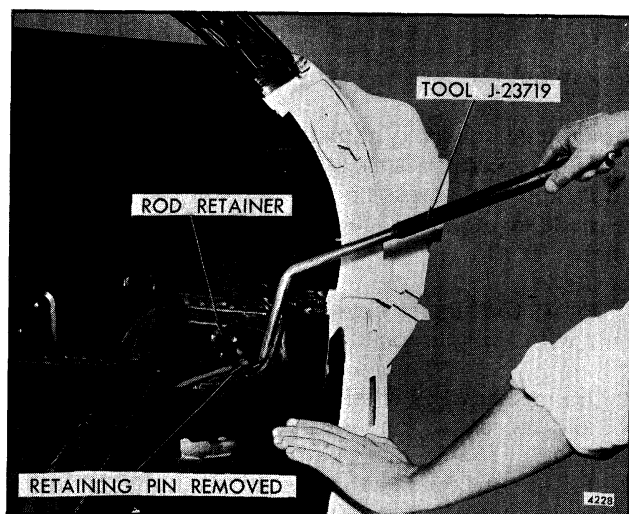

Fig. 7-141-Torque Rod Tool - Torque Rod Release or Adjustment
The retractable tailgate torque rod provides a counterbalance force for the operating cycles of the gate resulting in decreased opening and closing effort. The adjustable end of the torque rod is located on the right side of the body under the rear load supports and is secured in one of three adjusting locations by a pin inserted above the rod and through a key slot in the torque rod retainer (Fig. 7-141).
2. Remove load floor supports to gain access to torque rod retainer and with tool J-23719 or equivalent, apply downward pressure on torque rod. Carefully remove torque rod pin and allow torque rod to rotate forward to a fully relaxed position (Fig. 7-141).
equivalent, apply downward pressure against rod and remove retaining pin (Fig. 7-141).